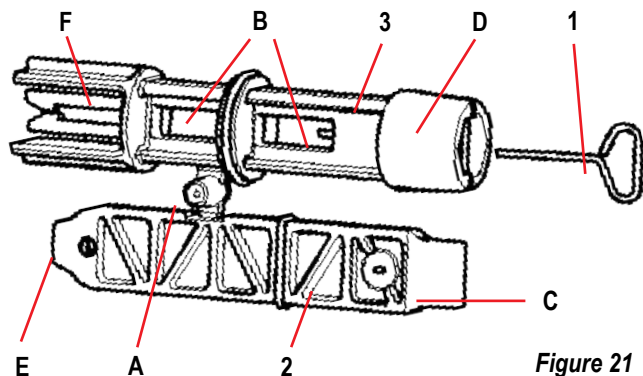

Figure 21
1. metal key with a hexagonal section (Fig.21 – 1);
2. flat plastic key (Fig.21 – 2);
3. cylindrical plastic key (Fig.21 – 3).
Key "1" is in turn inserted in the end "D" of key "3". At the first use you must separate the 2 plastic keys "2" and "3", which are supplied joined by a bridge (Fig.21 – A):